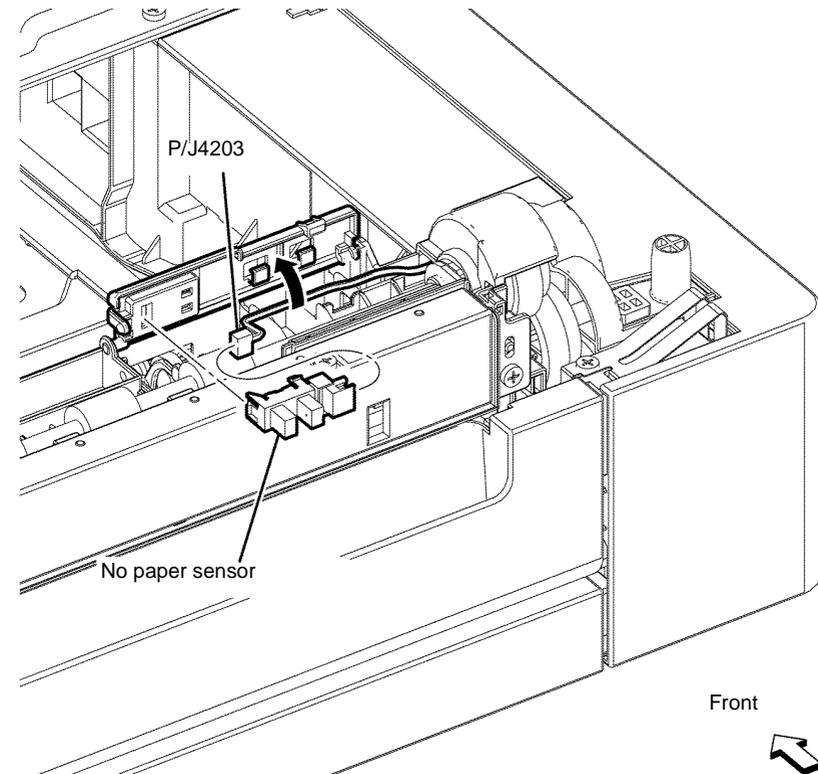

Figure 1 Option feeder no paper sensor removal
2. Remove the harness from the clamp, Figure 1.
3. Disconnect P/J4203, then remove the option feeder no paper sensor, Figure 1.